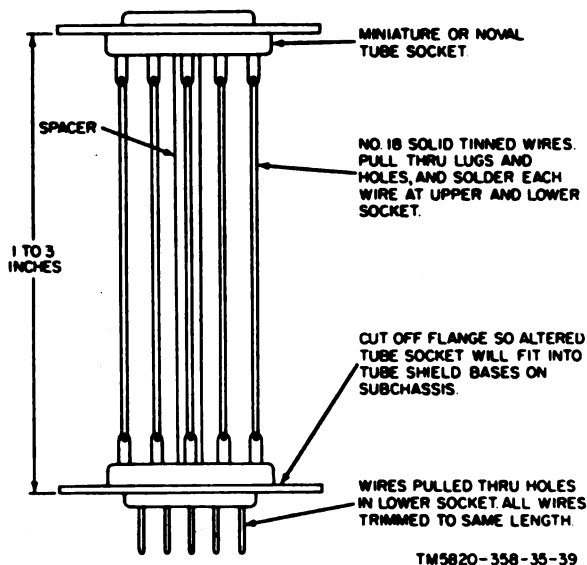

Figure 34. Fabrication of tube test point adapters.
a. To avoid removing a subchassis when voltage is to be measured or when a signal is to be injected at a tube-socket pin that does not have a test point, remove the tube, wrap a short length of thin insulated wire (both ends bared), around the desired tube pin. A more convenient method is the use of a tube adapter with test points. Construction information is shown in figure 34. The rf tuning coils and transformers on the rf subchassis can be removed readily (para 63c), if necessary, to permit measurement of voltage or resistance at the socket contacts, or measurement of the continuity of the coils.